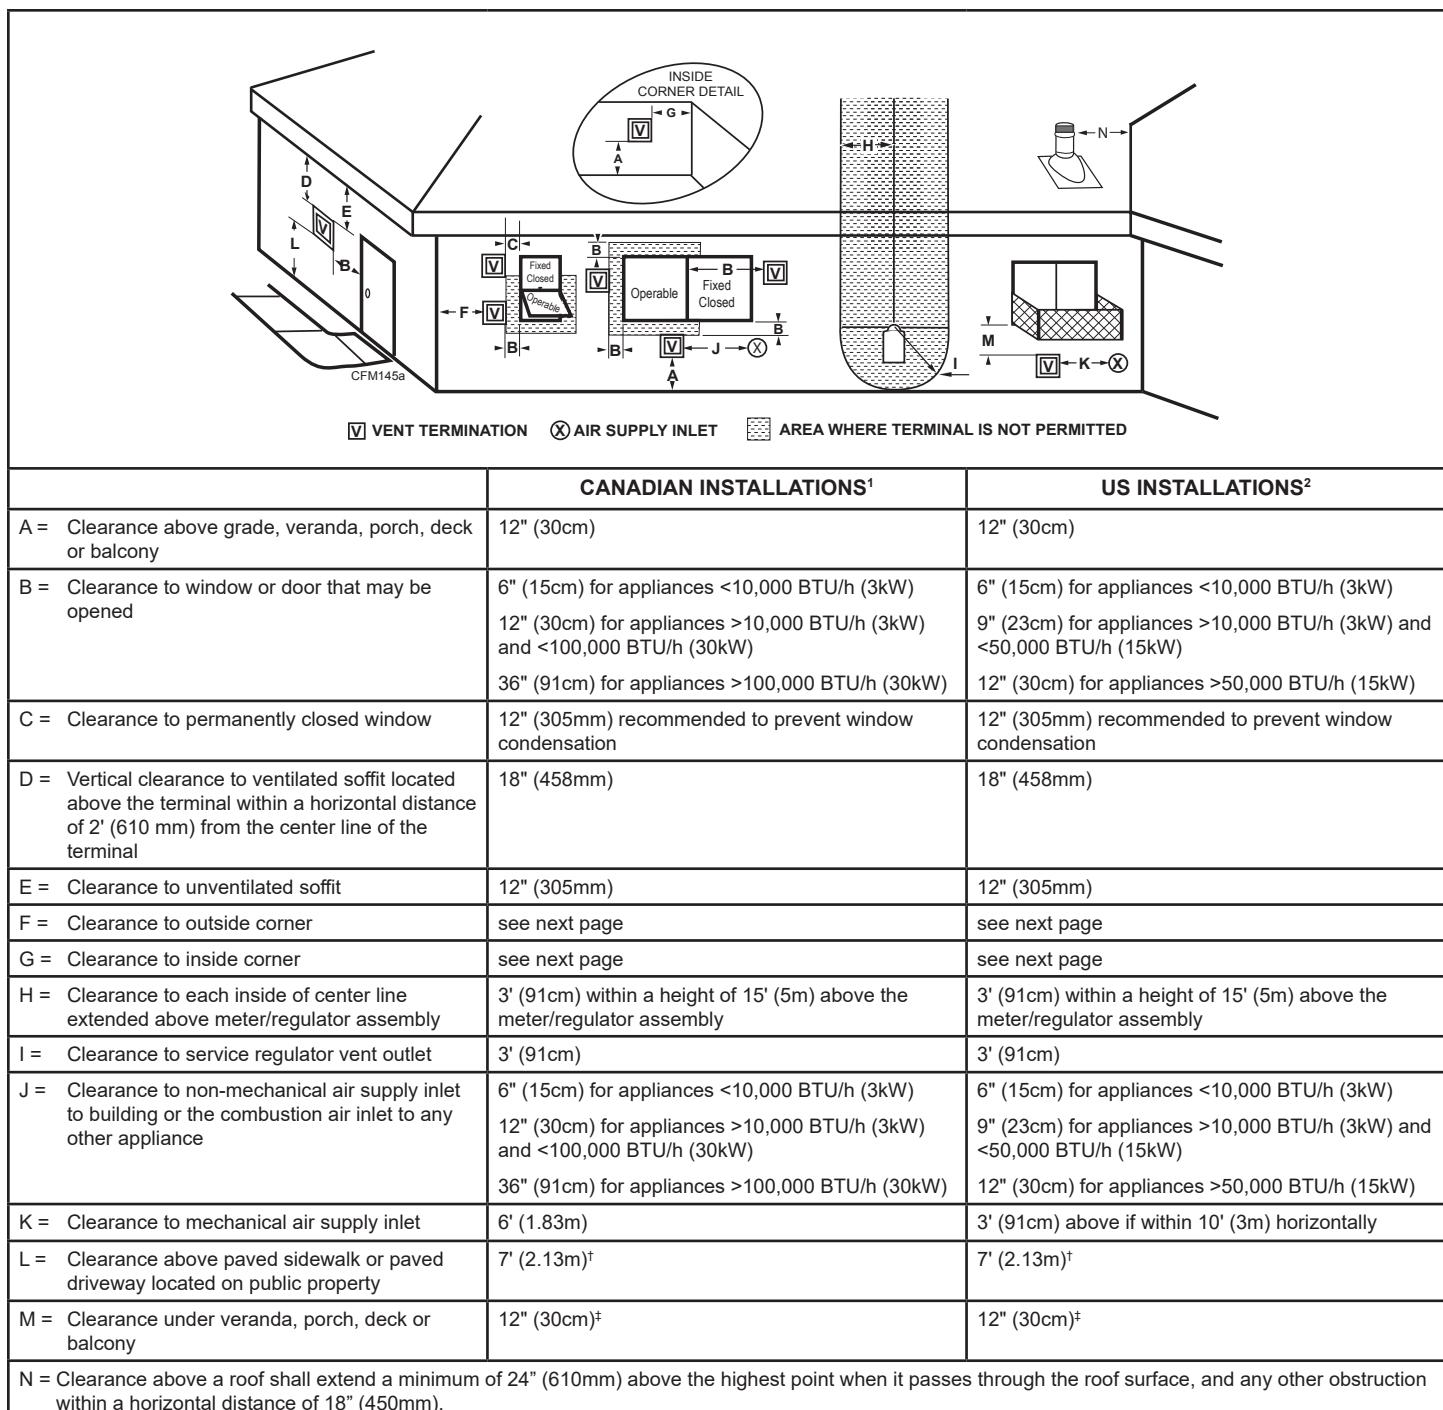

Figure 2.11 - Vent termination clearances.
The vent must rise vertically a minimum of 24" (610 mm) off the top of the unit, before the first elbow. The horizontal run may extend up to 20' (6m) and include a vertical rise of up to 40' (12 m). (Figure 7) Horizontal termination must also meet the criteria shown in Figures 2.11 through 2.12.
- Termination height must conform to roof clearance as specified in Figure 2.11.
When planning the installation, consider the location of the vent terminal and clearances. Some of the most common clearances to keep in mind are shown in Figure 2.11.
**Important: All vent clearances must be maintained. Check your vent termination clearances against Figures 2.11 and 2.12.**